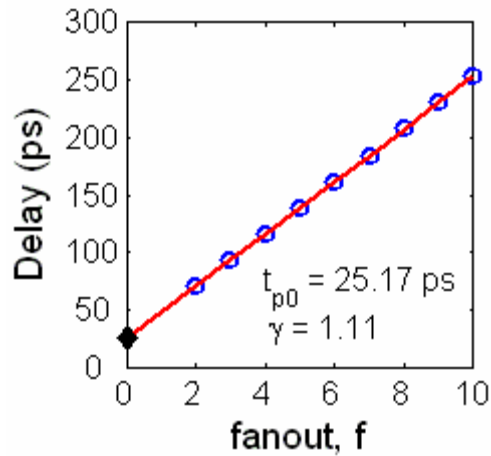

Figure 2. Inverter propagation delay vs. fanout.
a) Propagation delay as a function of fanout is shown in Fig. 2.